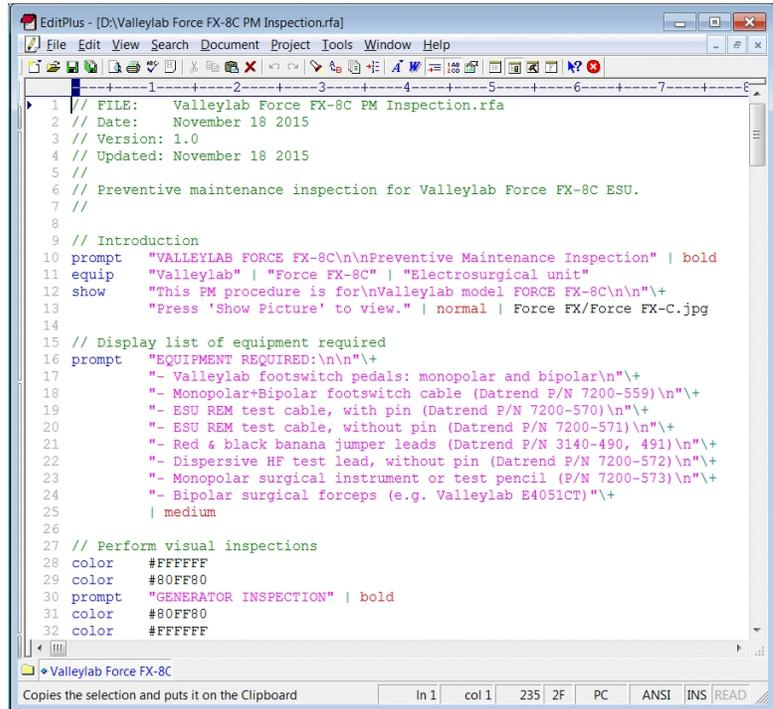

Figure 13 - Editing a RFA file with EditPlus.
*Figure 13* shows how an AutoSequence appears when it is being edited with EditPlus3. Note how the source code editor has automatically highlighted various items within the RFA program code (green for comments; blue for keywords; pink and black for text; and red for arguments).